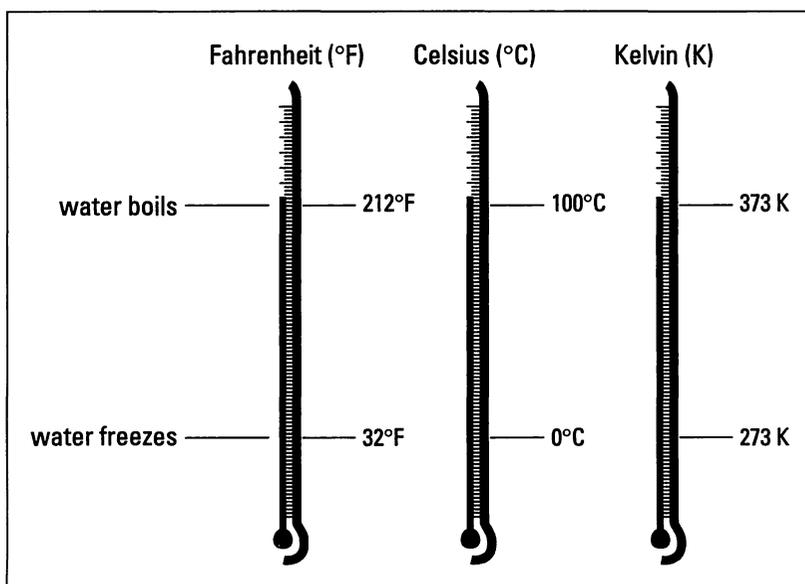

Figure 2-4: Comparison of the Fahrenheit, Celsius, and Kelvin temperature scales.
You probably use the Fahrenheit scale to measure temperatures, but most scientists and chemists use either the Celsius ($^{\circ}\text{C}$) or Kelvin (K) temperature scale. (There's no degree symbol associated with K.) Figure 2-4 compares the three temperature scales using the freezing point and boiling point of water as reference points.
As you can see from Figure 2-4, water boils at 100°C (373K) and freezes at 0°C (273K). To get the Kelvin temperature, you take the Celsius temperature and add 273. Mathematically, it looks like this: